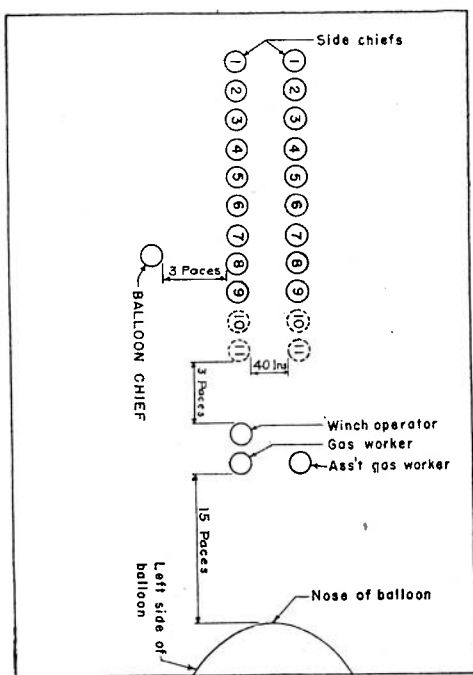

Figure 11.—Formation of balloon crew.
■ 16. FORMATION FOR MANHANDLING.—The balloon crew is formed as shown in figure 11. To form the crew, the balloon chief takes his post 3 paces in front of where the crew is to form and commands: FALL IN. The crew forms in two ranks 15 paces from the nose of the balloon facing to the left of the balloon. The front rank is composed of the members of the squad at the site, and the rear rank is composed of the members of the squad from another site. Ranks are 40 inches apart, with 4 inches between files. No. 1 in each rank is the side chief, and the numbered men in the crew run through No. 9 in each rank. If additional men are to be added to the crew, they fall in to the left of